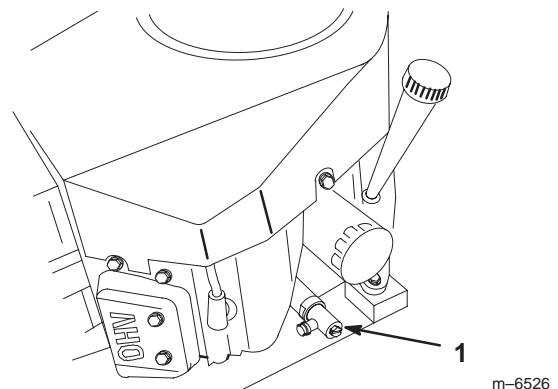

Figure 21
3. Place a pan below the oil drain. Use either a flat screw driver, 3/8 inch (10 mm) wrench to open valve (Fig. 21).
4. Rotate valve end counterclockwise to open valve (Fig. 21).
5. When oil has drained completely, rotate valve end clockwise to close the valve (Fig. 21).